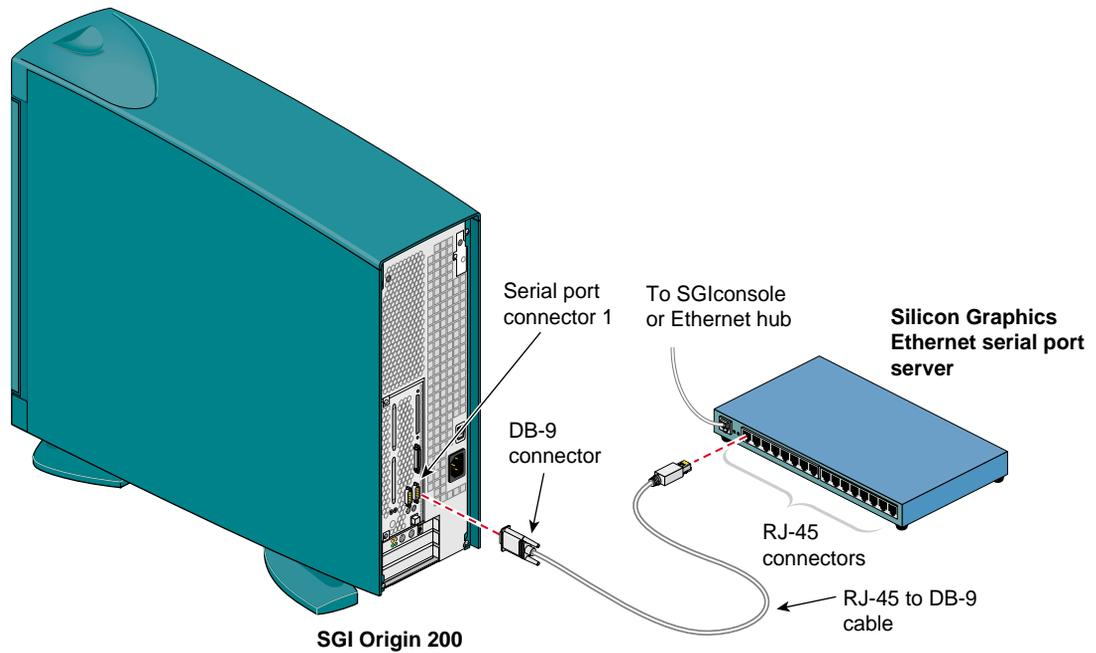

Figure 5-3 Connecting the SGI Origin 200 Server Serial Port Connector to the Serial Port Server
6. Connect the RJ-45 connector end of the RJ-45 to DB-9 cable to one of the RJ-45 serial jacks on the Silicon Graphics EL-16 serial port server. Connect the DB-9 connector to the Origin 200 server's serial port jack labeled "Serial Port Connector 1." See Figure 5-3.